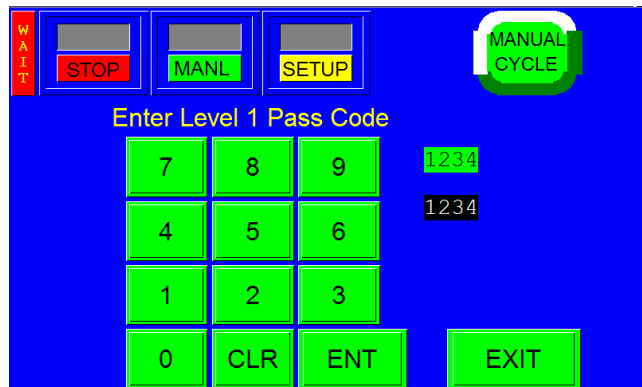

Figure 3-55
1. **Level 1:** This is the highest-level pass code. It prevents operators from accessing the Technical Assistance functions of the machine. The default pass code, when shipped from the factory, is 1001. To change this code, press the **Level 1 PW** button on the Password Setup Screen, enter a new code on the numeric keypad, and press the **ENT** button. See Figure 3-55.